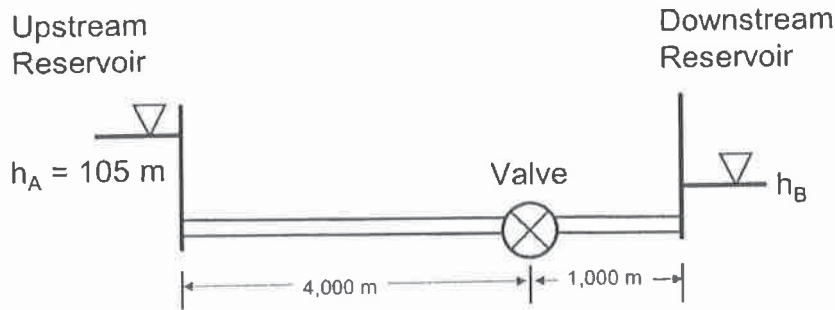

Figure 3. Water transmission system.
3. A transmission pipeline that conveys water from an upstream reservoir to a downstream reservoir is indicated in Figure 3. The transmission main has a valve along its length that controls the discharge in the system. The discharge through the valve is computed with the valve equation below. The pipeline has a length of 5,000 m, a Hazen-Williams 'C' factor of 110, and an inner diameter of 450 mm. The upstream reservoir has a water level of 105 m. The valve discharge constant is  $E_s = 0.33 \text{ m}^{5/2}/\text{s}$ . The discharge in the system is  $0.7 \text{ m}^3/\text{s}$ .